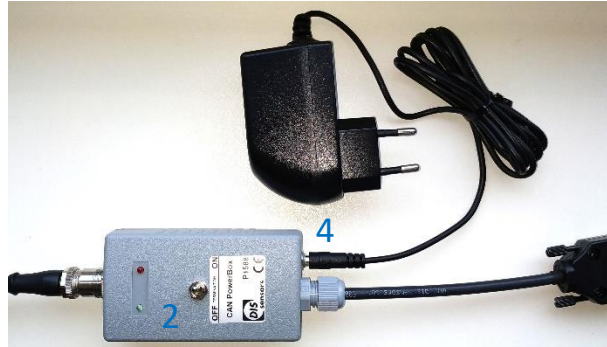

Figure 20 - Power adapter for the CAN power box
- Item 4: Power adaptor. (Figure 20)